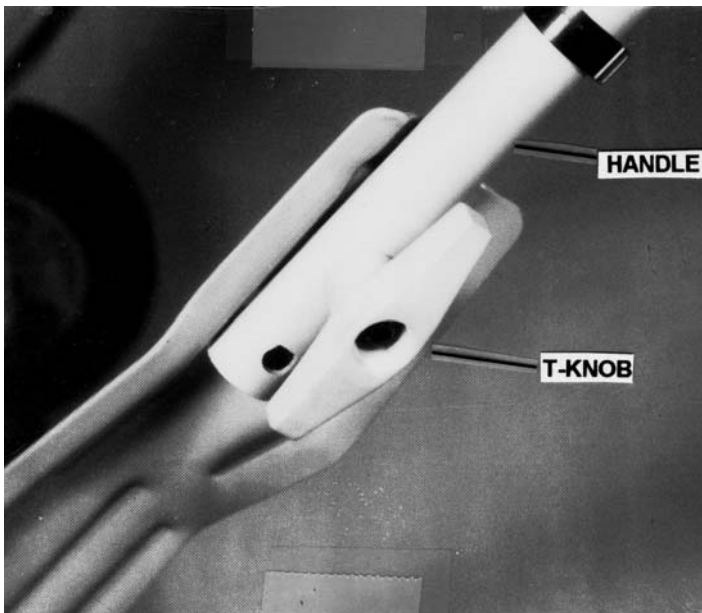

FIGURE 2
5. Loosen the handle T-knobs and raise the handle to the operating position. Retighten the T-knobs. See Figure 2.